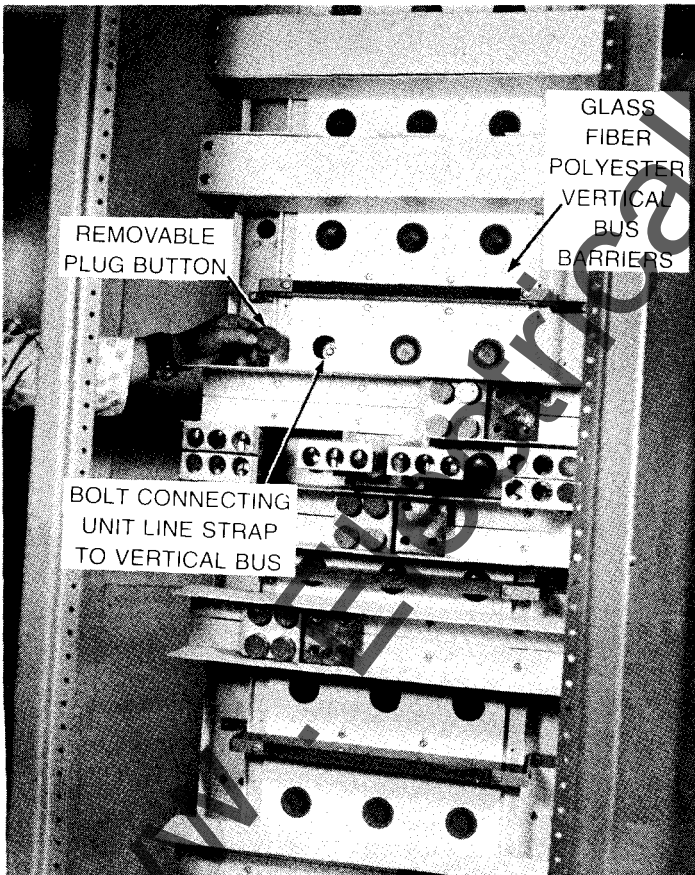

FIGURE 52.
2. (Fig. 52) To check torque of bolts connecting the line side unit straps to the vertical bus remove the plug buttons over each bolt head. It is not necessary to remove the barriers to check bolt torque.